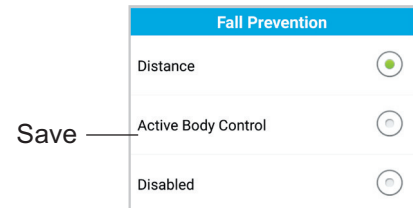

Figure 9-9: Fall Prevention Menu
1. Use the Fall Prevention drop-down menu. Distance, Active Body Control, or Disabled. The Save button will turn red. See Figure 9-9.